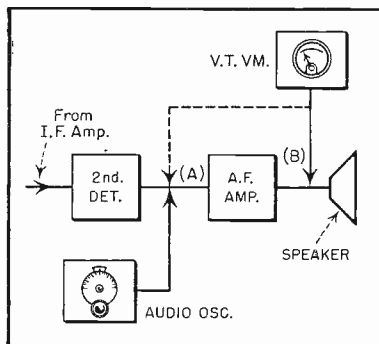
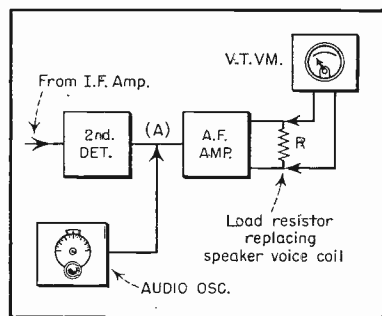

Fig. 3.
Fig. 4.
The block diagrams in Figures 3 to 8 inclusive show the connections of the test instruments to the various stages in a conventional a. m. superheterodyne receiver. These are the arrangements for making the ten tests listed earlier in this article under **Recommended Test Program**. The method of making the separate tests is explained below.
1. Audio Gain and Sensitivity. Set up the audio oscillator and v. t. voltmeter as shown in Figure 3. Connect the v. t. voltmeter to point B; that is, across the speaker voice coil. Connect the oscillator to the input of the audio channel. If there is more than one stage in the audio channel, connect the oscillator to the input of the **first** a. f. stage. Set the oscillator to 1000 cycles, and advance the oscillator output attenuator until the loudest **undistorted** signal is obtained in the speaker. Record the meter reading at this point as E_1 . Transfer the meter to point A at the input of the audio channel and record the voltage at this point as E_2 . To determine the amplifier gain, divide E_1 by E_2 : E_1/E_2 . Repeat the test at several other frequencies.
To determine audio sensitivity, use the arrangement shown in Figure 4. Increase the oscillator output until the rated output wattage is developed across load resistor R. (Watts can be de-
2. **Audio Power Output.** First, use the arrangement shown in Figure 3 to determine the value of input signal voltage which will give the loudest undistorted output signal. Then, without disturbing the oscillator or amplifier controls, replace the speaker with the load resistor (see Figure 4) and determine the audio output watts in the manner explained in the foregoing section **Audio Gain and Sensitivity**.
3. **Fidelity of Audio Channel.** Use the arrangement shown in Figure 4. Set the output of the audio oscillator to give rated amplifier power output at 1000 cycles. Note the voltmeter reading. Now, change the oscillator frequency in small steps from 1000 cycles down to 50, and from 1000 cycles up to 10,000, keeping the oscillator output voltage constant at all times (check the oscillator voltage by switching the meter temporarily to point A each time the frequency is changed). A high-fidelity amplifier will show very little output voltage change from the 1000-cycle voltage level as the frequency is varied from 100 to 10,000 cycles. Pronounced dips or peaks in the output voltage at various frequencies indicate poor frequency response which can be
10. **Noise or Hum Level.** Use the arrangement shown in Figure 3, except **do not use the audio oscillator in this test.** Connect the v. t. voltmeter to point B; that is, across the speaker voice coil. Short-circuit the antenna and ground terminals of the receiver to prevent pickup of signals or static. Note the voltmeter deflection which is due entirely to hum or noise. This signal voltage may be identified (that is, whether it is noise or hum or both) easily by listening to the speaker output. Repeat at each setting of the tone control. A significant figure is the ratio of this hum or noise voltage to the voltmeter deflection at full signal output.